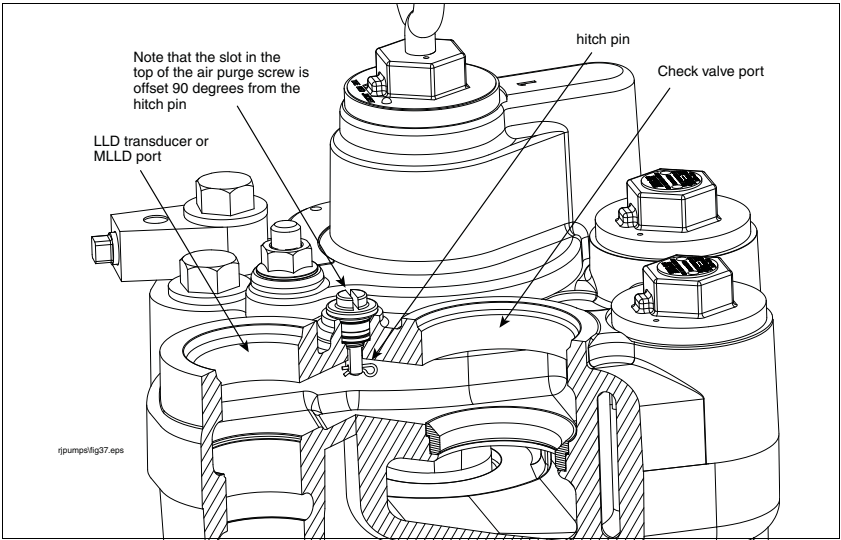

Figure 39. Locating Air Purge Screw Hitch Pin
6. The air purge screw has a hitch pin that is set in the horizontal position to limit travel of the screw (see Figure 39).